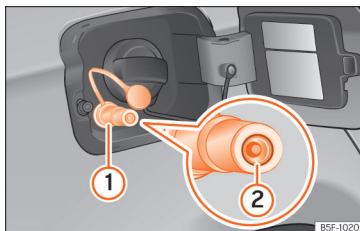

Fig. 277 Open tank lid: gas filler mouth ①, filler mouth retainer ②
- Remove the plug from the gas filler mouth » **Fig. 277 ①**.